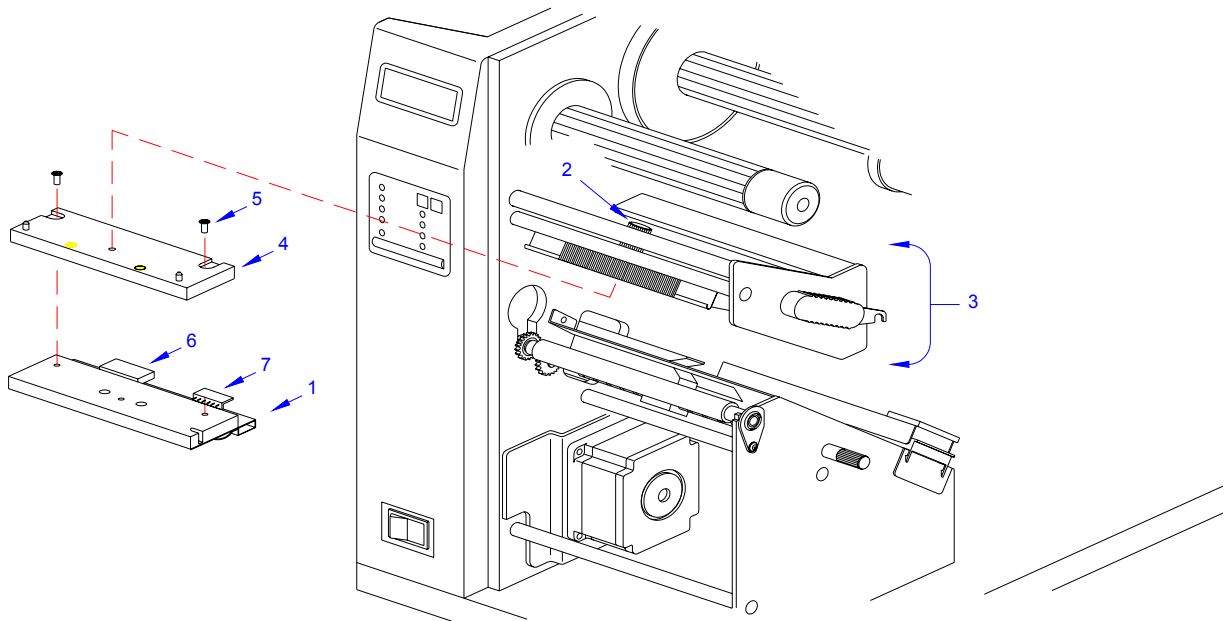

Figure 7-14, Print Head Replacement
- 3 Remove ribbon and media to provide free access to print head (1, Figure 7-14).
- 4 Turn thumb screw (2) located on the top side print assembly (3) to release print head (1).
- 5 Disconnect the two wiring harnesses from print head (1) and lift away.